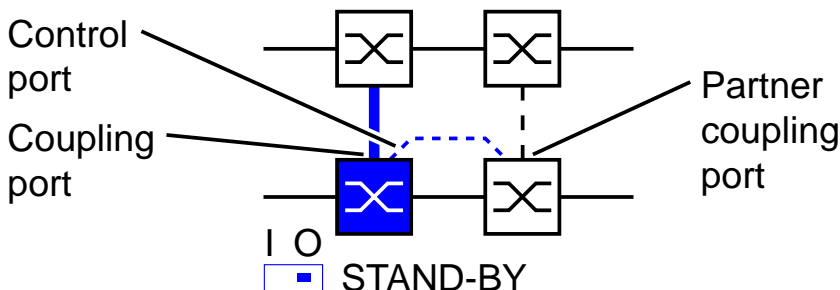

Fig. 26: Two-switch coupling with control line
- Select the two-switch main coupling with control line (see Fig. 26).